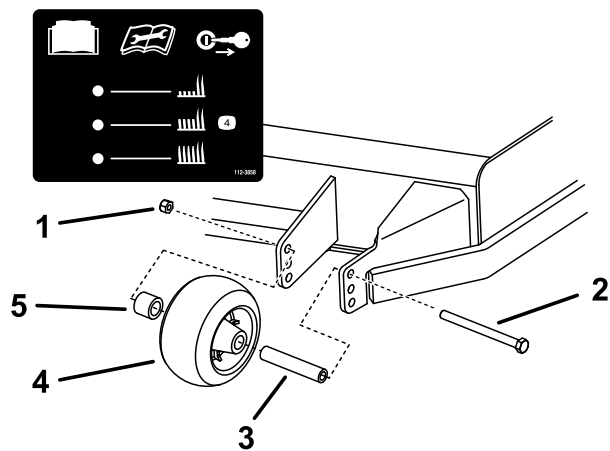
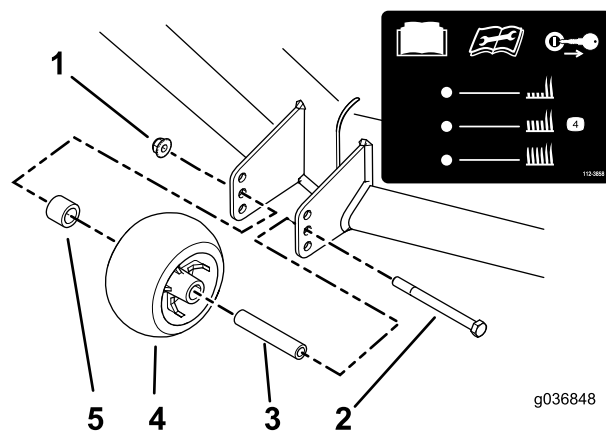

Figure 31
Figure 32
3. Adjust the anti-scalp rollers as shown in Figure 31 and Figure 32.